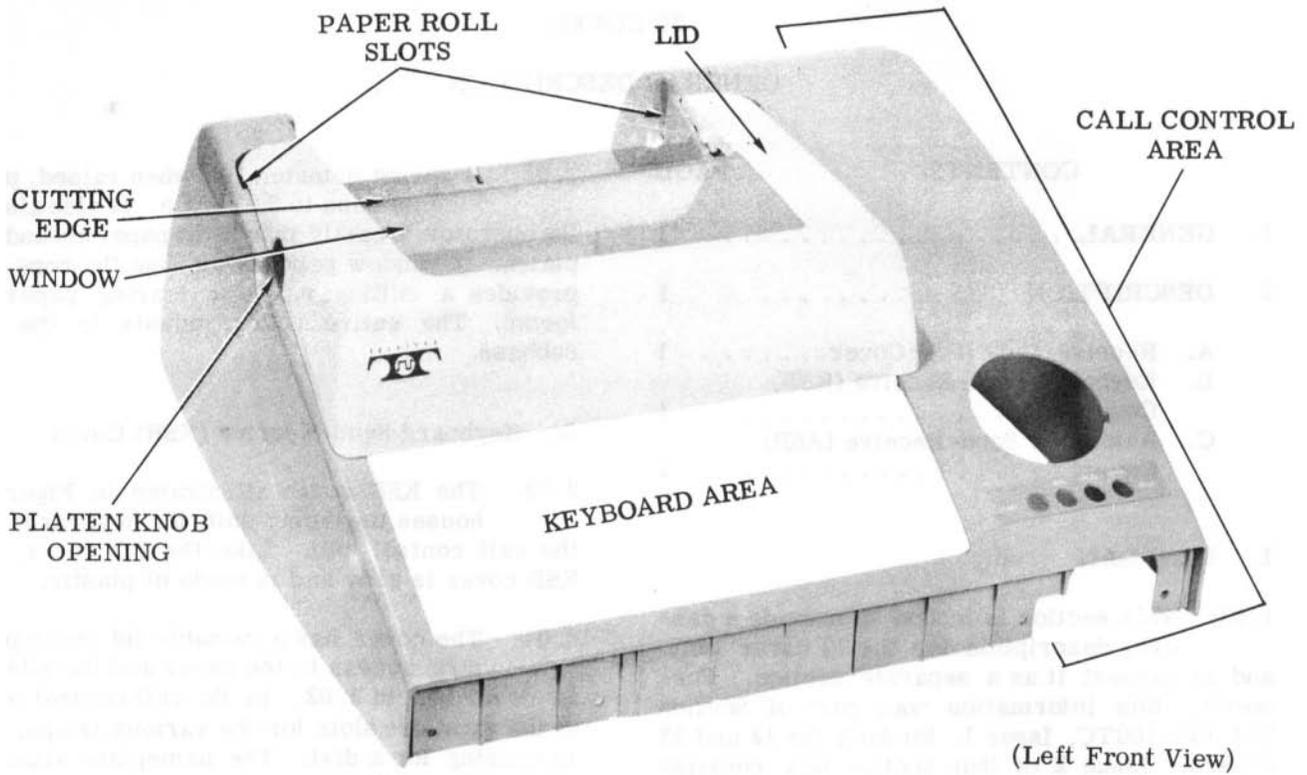

Figure 1 - Keyboard Send-Receive (KSR) Cover
2.03 The KSR cover illustrated in Figure 1 houses the typing unit, the keyboard, and the call control unit. Like the RO cover, the KSR cover is gray and is made of plastic.